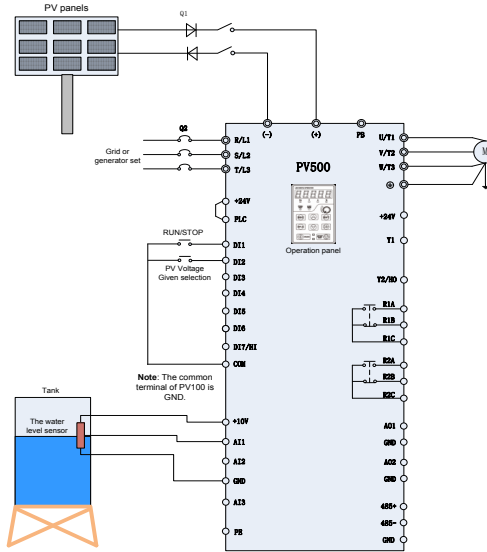

Figure 2-3 PV500 Grid or Generator Power Supply Wiring Diagram
1. Wirings as Figure2-3&Figure2-4 system wiring drawings according to inverters power, check and confirm the connections to be correct.